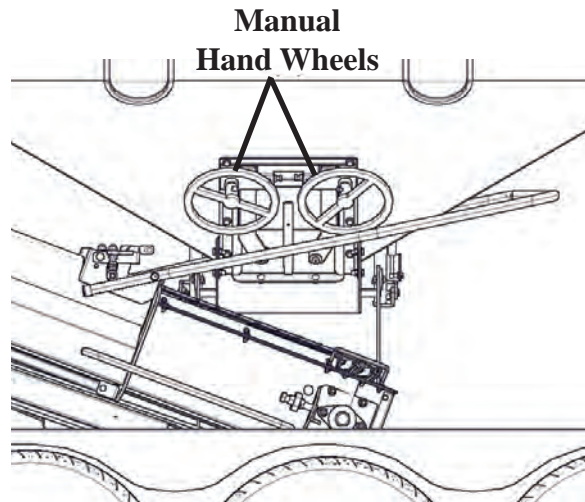

Figure 1.5
8. Open door on Speed Tender with manual hand wheel (Figure 1.5).